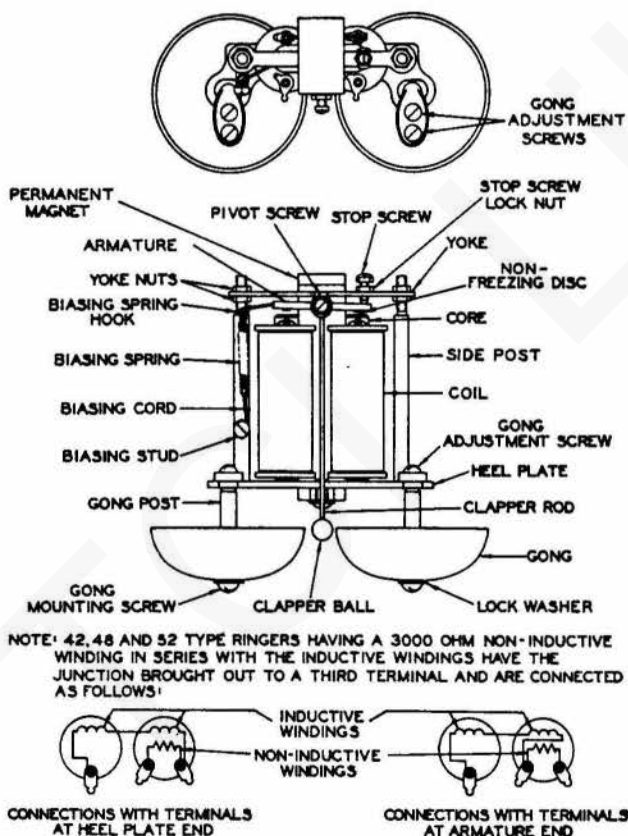
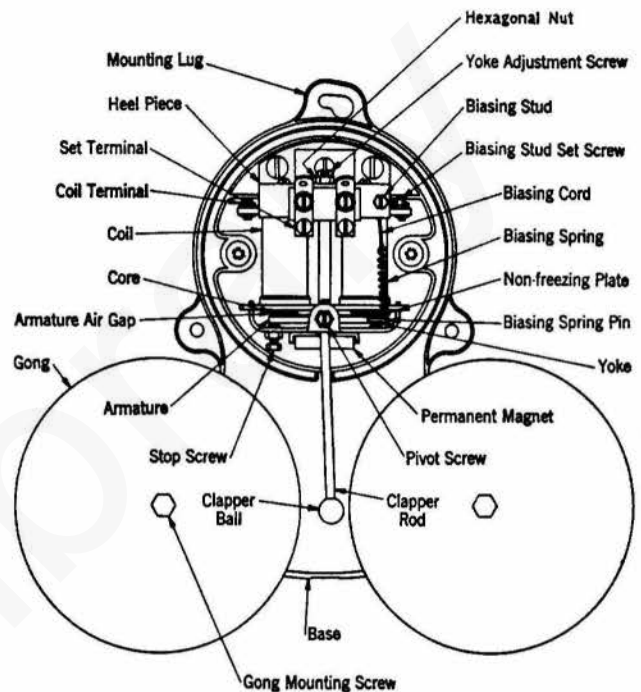

Fig. 1 — Typical Numbered Ringers
Fig. 2 — 392-type Subscriber Set (Loud Ringing Bell)
2.03 Fig. 1 illustrates typical numbered-type ringers and their component parts. Fig. 2 illustrates the 392-type loud ringing bell and its component parts.